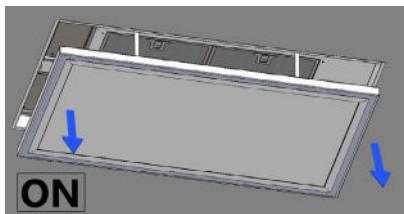

FIG. 15
-  Motor ON (Speed Level 1 and panel opens) / OFF (panel closes) command (Fig.15 and 16).